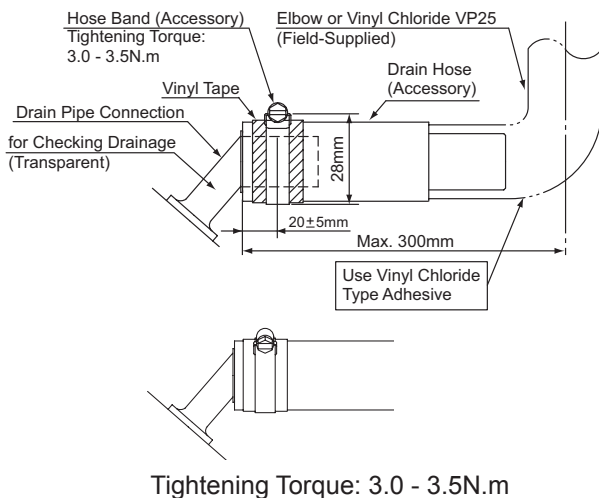

Fig. 6.3 Drain Hose Connection
- (c) Attach the factory-supplied hose clamp to the vinyl tape (white) attached to the drain hose. The hose clamp shall be 20mm away from the end face of the drain hose. Then tighten the hose clamp to make sure that it is approximately 28mm in length from the screw to the edge of the hose clamp as shown in Fig. 6.3.